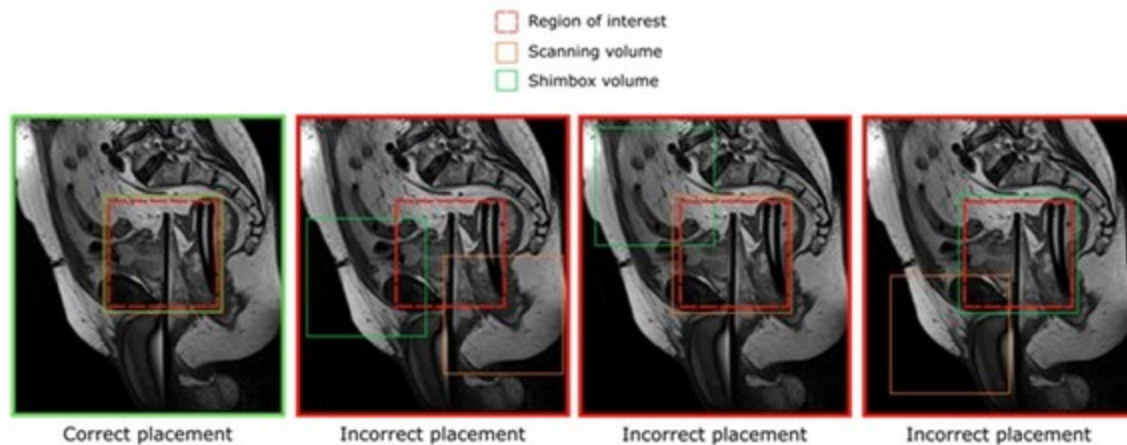

Figure 38: Examples of correct and incorrect placements of the shim box
1. **MRI Technologist:** Open AX THERM for editing in the **Offc/Ang** tab, change the AP, RL, and FH values for both *Stack Offc.* and *Ang* (Figure 39). to match those in TDC. Do the same for the shim volume. If the shim volume includes more than just the patient anatomy (such as air), reduce the size of the shim box (Figure 38).